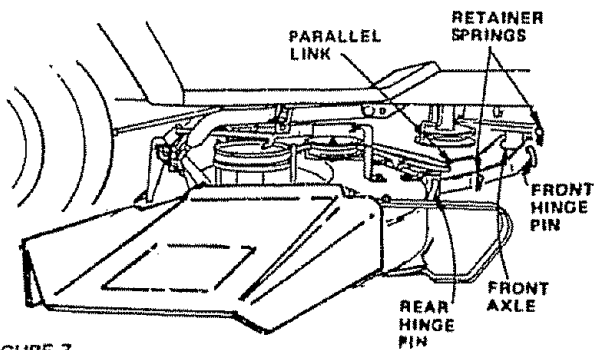

FIGURE 7
- Install front hinge pin through axle and parallel link (Fig. 7). Secure with retainer spring.
- Install rear hinge pin through mower lift brackets and parallel link (Fig. 7). Secure with retainer spring.
IMPORTANT: BEFORE DRIVING THE TRACTOR, INSTALL MOWER OR REMOVE MOWER PARALLEL LINK (Fig. 7).